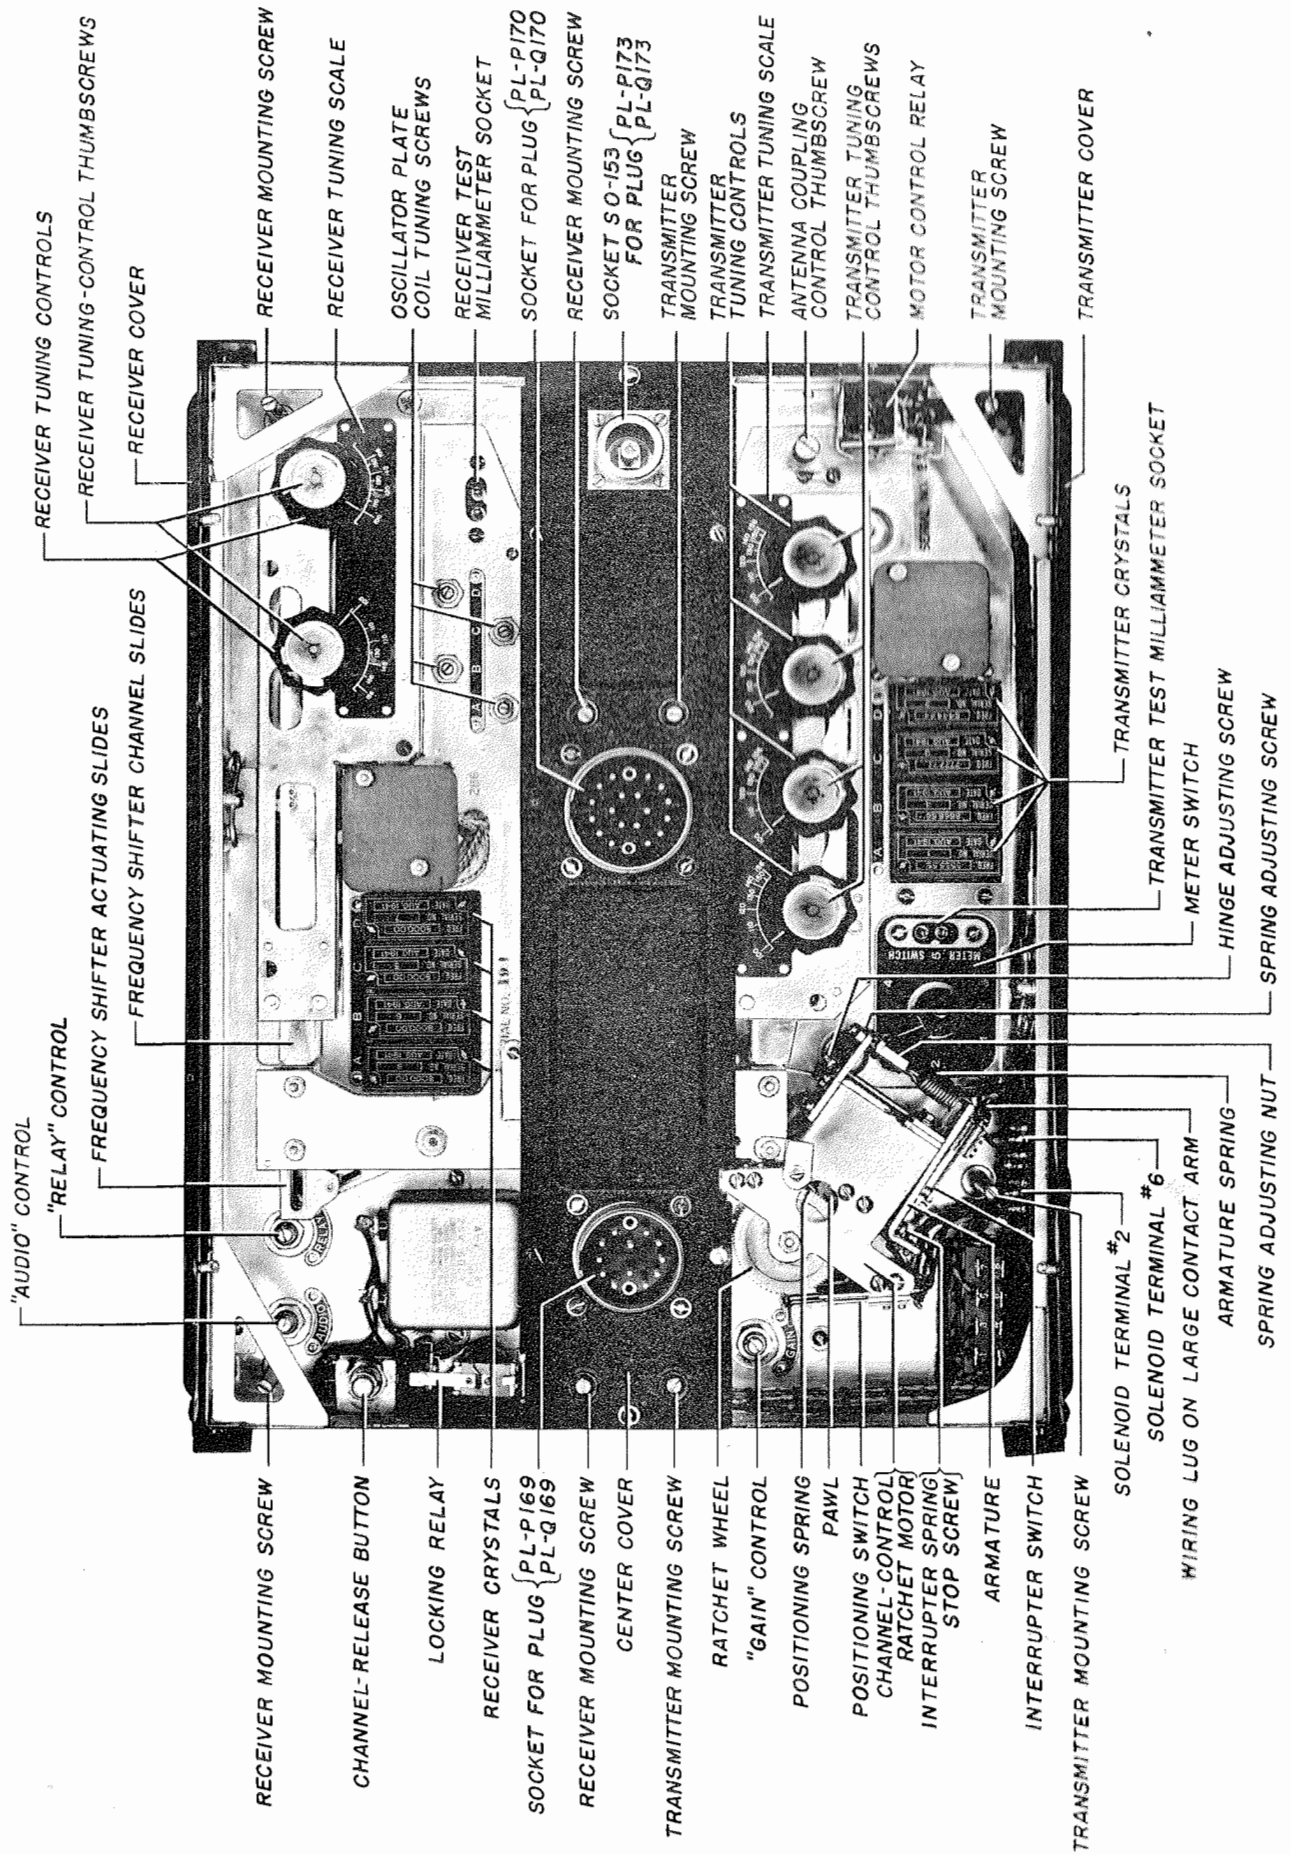

FIGURE 3—TRANSMITTER-RECEIVER ASSEMBLY, TOP VIEW, COVERS OPEN
Rack FT-244-A is provided with the necessary electrical connections for the transmitter and receiver. One socket on the rack is for the RF transmission line to the antenna, one is for the cable to the dynamotor unit and one is for the cable to the junction box (see Figures 3 and 27). Electrical connections between the rack and the receiver and transmitter are automatically made upon proper assembly of these components.
The transmitter control panel is equipped with a test-milliammeter socket and a "METER SWITCH" (see Figure 3). Position No. "6" of the "METER SWITCH" is not used. The following table shows, for each of the five usable positions of this switch, the amount of current which will cause full-scale deflection of the 0-1 MA DC test milliammeter which is part of Test Set I-139-A.
The antenna-coupling control is located on the right side of the transmitter panel (see Figure 3) and the "GAIN" control is on the left. The crystal sockets are to the right of the "METER SWITCH" and are identified by the channel letters "A", "B", "C", and "D" (see Figure 3).
(1) The following components of Test Equipment IE-19-A are required for transmitter tuning: Field Strength Meter I-95-A and Test Set I-139-A. The test set consists of a 0-1 MA DC milliammeter with a cord attached.
(2) Radio Transmitter BC-625-A, when being tuned, must be inside Case CS-80-A, with Radio Receiver BC-624-A connected. NOTE: If the transmitter is tuned while removed from the case, the additional capacitances introduced by replacing the transmitter in the case would tend to upset the tuning adjustments.
(3) If the receiver and transmitter covers are closed, loosen the Dzus fasteners pinning them to the center cover. Raise the covers slightly and draw them away from the control panels.
(4) The crystal chosen for any transmitter channel should have a fundamental frequency one-eighteenth the magnitude of the desired output frequency.
(5) With the airplane antenna plugged in, install crystals of the desired frequencies in the crystal sockets. Plug the test-set cord into the two-prong transmitter test-milliammeter socket located on the right side of the "METER SWITCH" (see Figure 3).
Press channel "D" button on the panel of Radio Control Box BC-602-A. Press the channel-release button located on the rack (see Figure 3). Loosen the four transmitter tuning-control thumbscrews by turning them counter-clockwise (see Figure 3). Press channel "A" button on the radio control box.